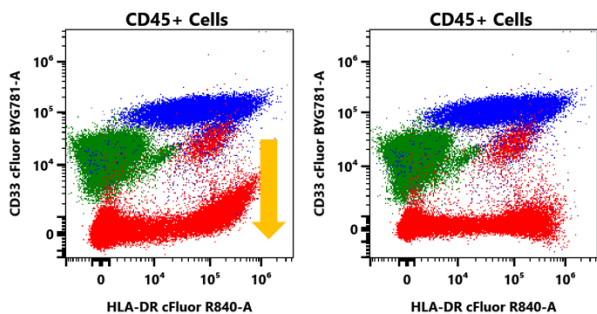

Figure 2: Example of unmixing error adjustment.
- To adjust unmixing error of a plot, click **Adjust Spillover** icon in the ribbon menu. Click and drag upward or downward on the plot to make the adjustment (see Figure 2).